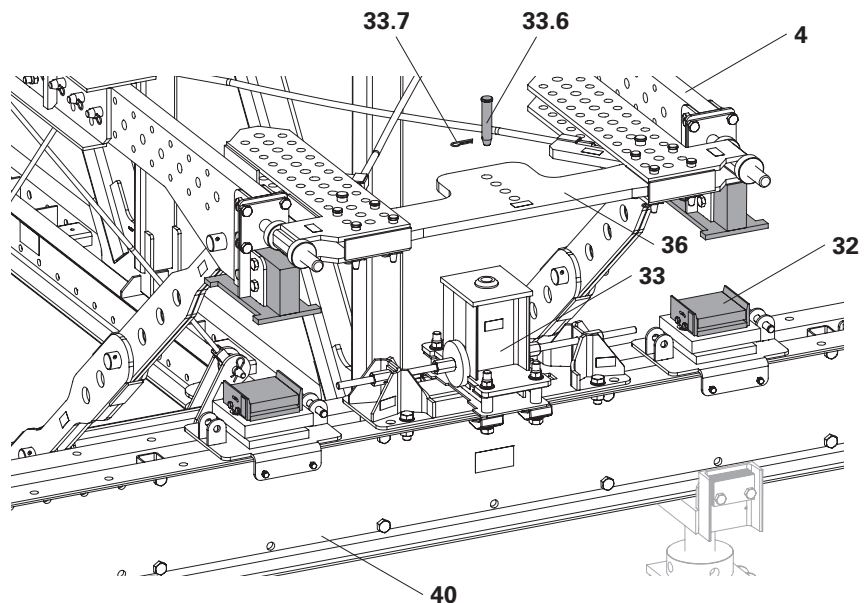

Fig. C1.03
7. Secure the bolt (**33.6**) with a cotter pin (**33.7**). (Fig. C1.03)